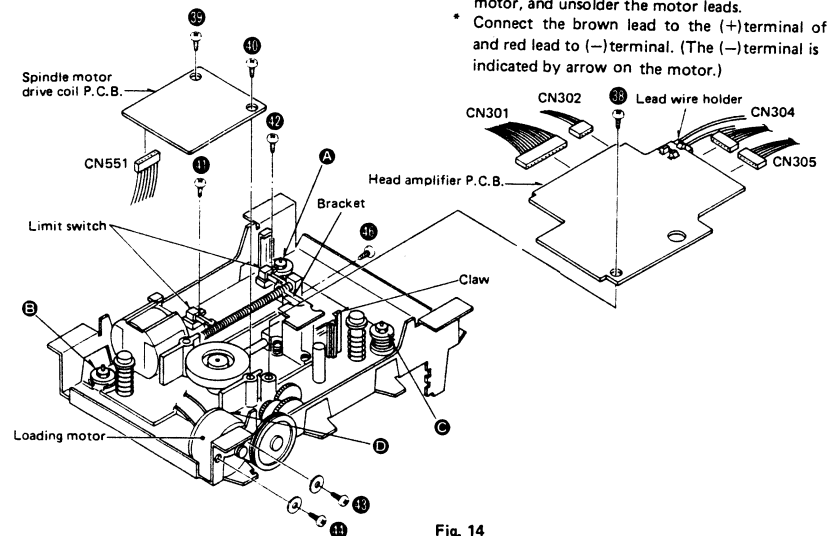

Fig. 14
4. Turn over the traverse unit and remove the 4 nuts [Fig. 14 ; A ~ D]. Then the travers unit ass'y.
2. Turn over the traverse unit and remove the head amplifier setscrew [Fig. 14 : 38].
5. Remove the 2 setscrews [Fig. 14 ; 39, 40] of spindle motor P.C.B. Then the spindle motor drive coil P.C.B. can be removed.
2. Remove the 2 setscrews [Fig. 14 : 41, 42] of limit switch, and unsolder the limit switch.
2. Remove the belt from the loading motor pulley. [Fig. 14]
3. Remove the 2 setscrews [Fig. 14 : 43, 44] of loading motor, and unsolder the motor leads.
2. Remove the bracket setscrew [Fig. 14 : ⑭] of pickup.
5. Pull out the 2 connectors [CN304, CN305] of head amplifier P.C.B. [Fig. 14]